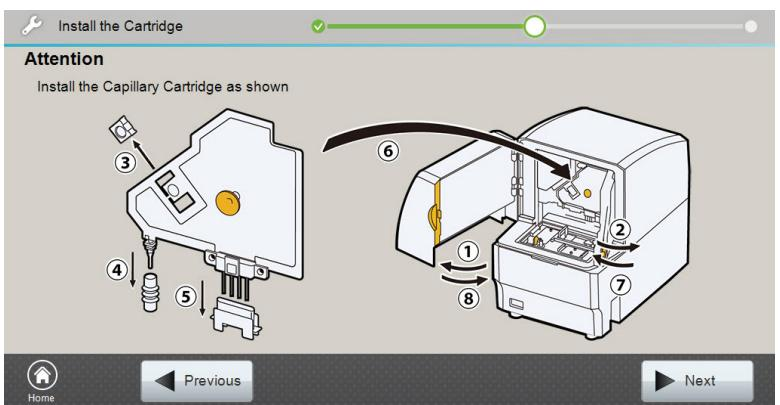

Figure 33. 'Install the Capillary Cartridge' screen.
5. When the 'Install the Capillary Cartridge' screen appears (Figure 33), open the front door of the instrument.